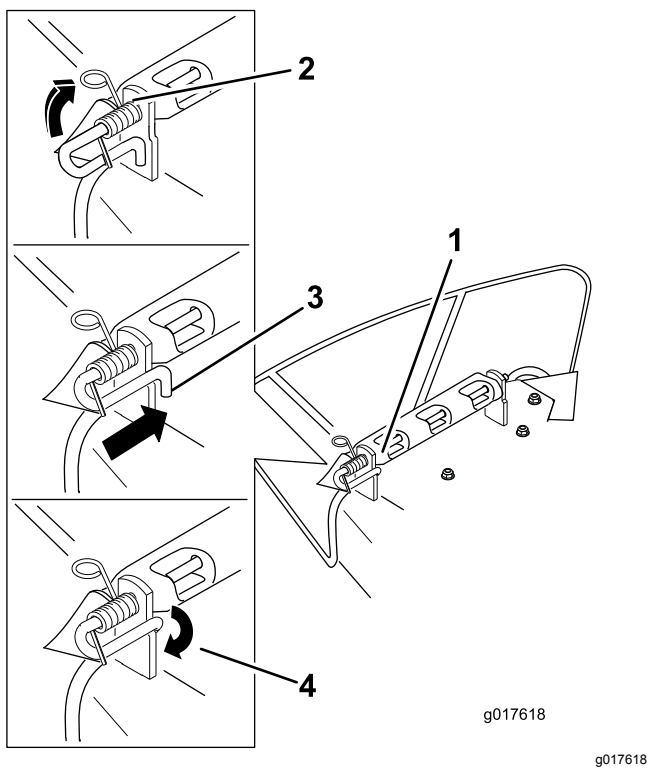

Figure 62
- Position the new discharge deflector with the bracket ends between the welded brackets on the deck as shown in Figure 62.
- Lift the loop end of the spring and place it into the notch on the deflector bracket (Figure 62).
7. Secure the rod and spring assembly by twisting it so that the short end of the rod is behind the front bracket welded to the deck (Figure 62).